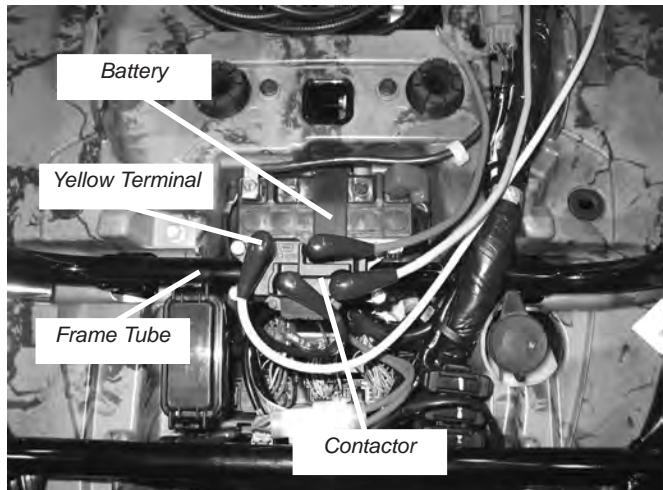

Figure 26 Contactor Location
- a. The contactor is located under the panel behind the seat, figure 26.
- c. Position the contactor with the yellow and red terminals closest to the battery, figure 26. Fasten the contactor to the frame tube using the supplied 1/4-20 x 1" x 1 3/4" u-bolts, 1/4" flat washers, and 1/4-20 lock nuts. Do not tighten at this time.